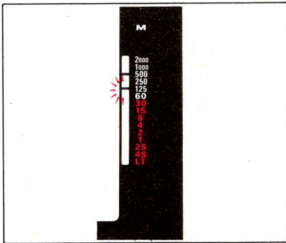

Fig. 53
2. The pre-set shutter speed is shown by the Indicator on the LCD meter display. A second Indicator blinks to indicate a "suggested" speed at a given f-stop. (Fig. 53)